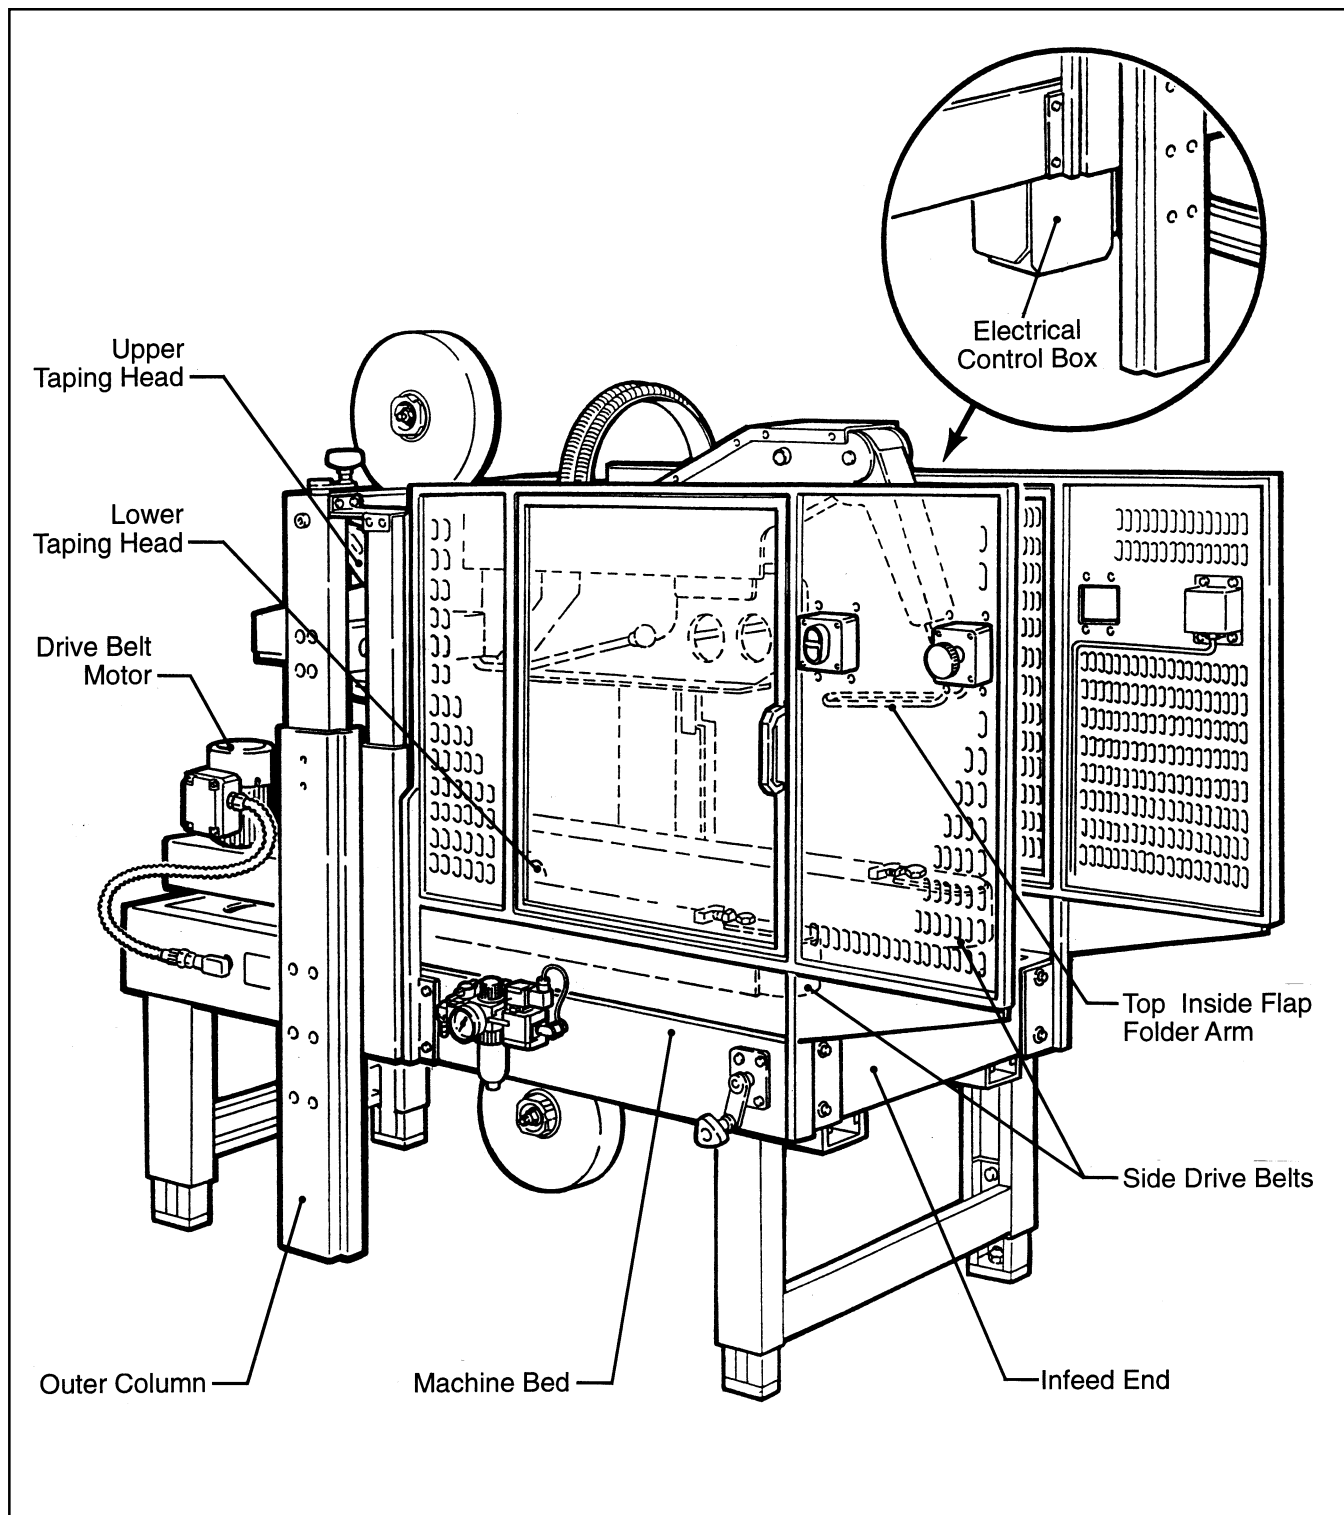

Figure 3-1 – 120af Case Sealer Components (Left Front View)
The following instructions are presented in **the order recommended** for setting up and installing the case sealer, as well as **for learning the operating functions and adjustments**. Following them step by step will result in your thorough understanding of the machine and an installation in your production line that best utilizes the many features built into the case sealer. Refer to Figure 3-1 and 3-2 to identify the various components of the case sealer.
Refer to Figure 3-1 and 3-2 to acquaint yourself with the various components and controls of the case sealer. Also see Figures 3-1 and 3-2 in Section II for taping head components.
9. Both the upper and lower taping heads utilize extremely sharp tape cut-off knives. The knife is located under the orange knife guard which has the "WARNING – SHARP KNIFE" label. Before loading tape, refer to Figures 3-1 and 3-2 in Section II to identify the knife location. Keep hands out of these areas except as necessary to service the taping heads.